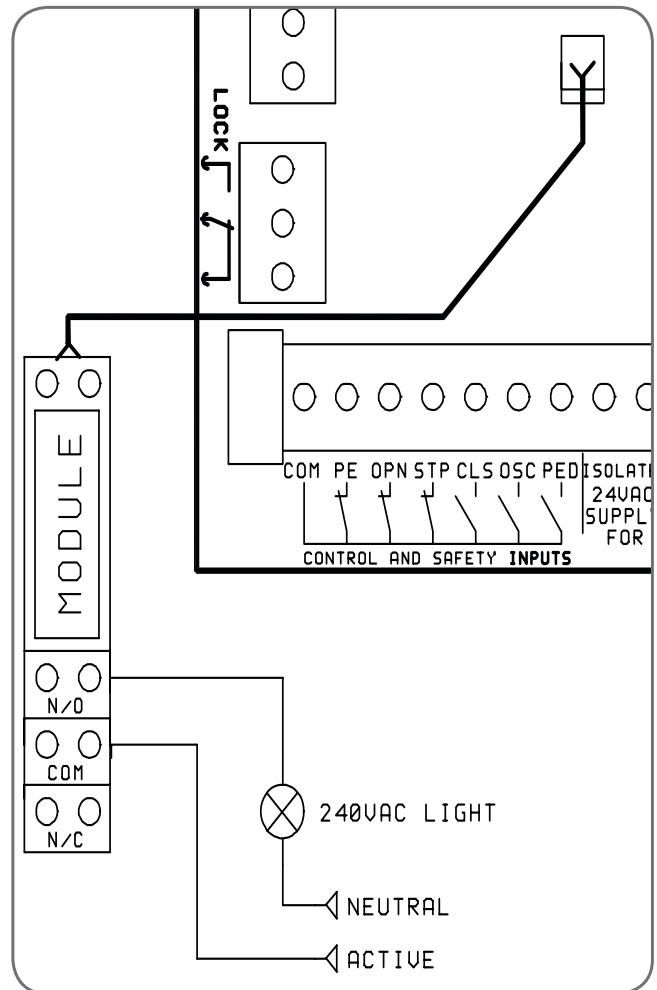

Fig 7.1
Fig 7.1 shows how to connect the optional relay module to the control board's connector (21). It also shows how to wire a light to the relay module. The example shows a 240VAC light but any light of any voltage can be used, provided the relay module is able to switch the required voltage and current. See light relay module specifications in section 9 and Appendix B. The light should not be powered from either of the control board's 24VAC supplies as the large current draw may interfere with the control board's operation.